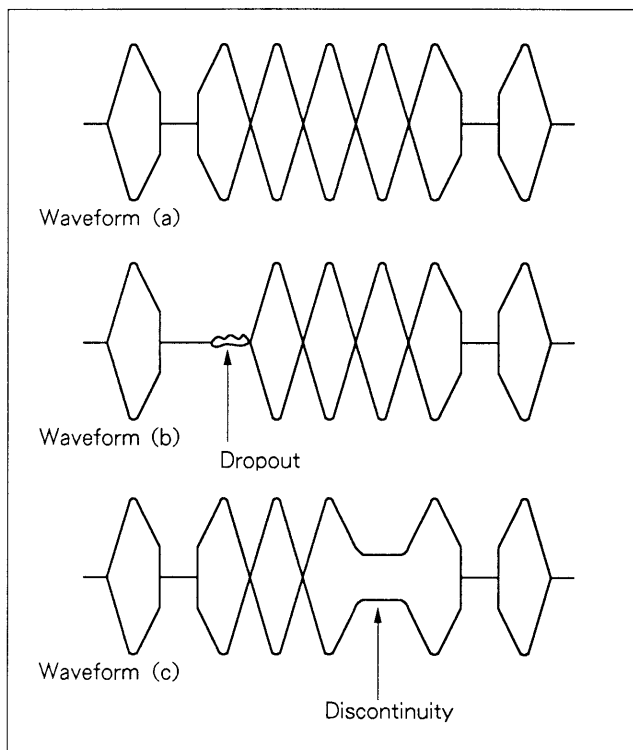

Fig. 9-13-3. Self-Record/Playback Waveform Check
- (2) Check the RF waveform so that there are no RF dropout and discontinuity as shown in Fig. 9-13-3 (a). If a waveform shown in Fig. 9-13-3 (b) or (c) appears, perform the slantness adjustment of slant guide as follows: